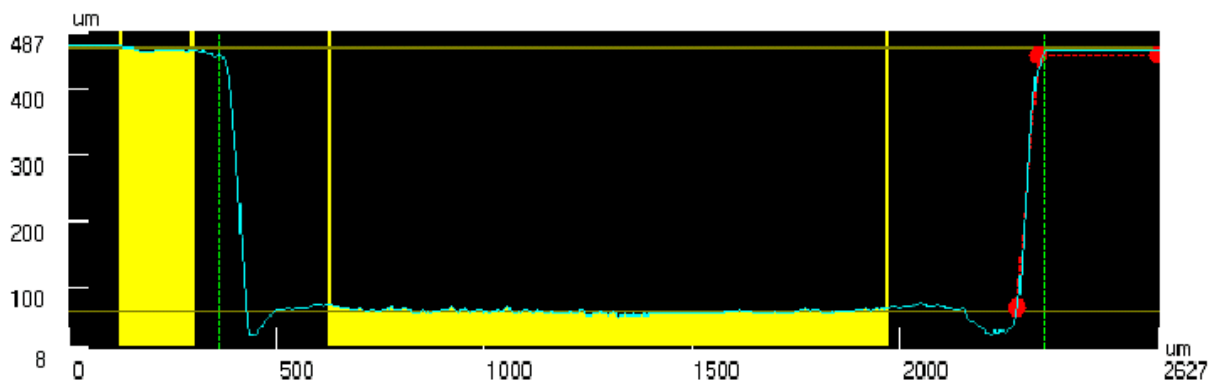

Figure 2 : 2D cut profile of the ablated volume, showing flat bottom, sharp edges and steep side walls.
- Flank angle: 98 - 104° for a 90° target (see fig.2)